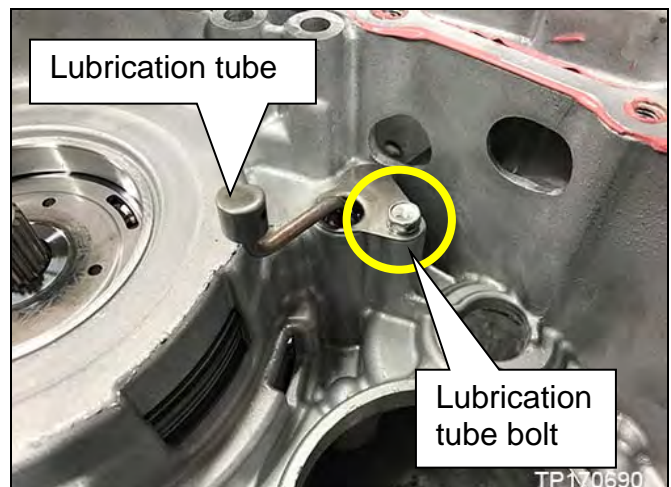

Figure 13J
14. Remove the lubrication tube bolt shown in Figure 13J and then remove the lubrication tube from the CVT case.